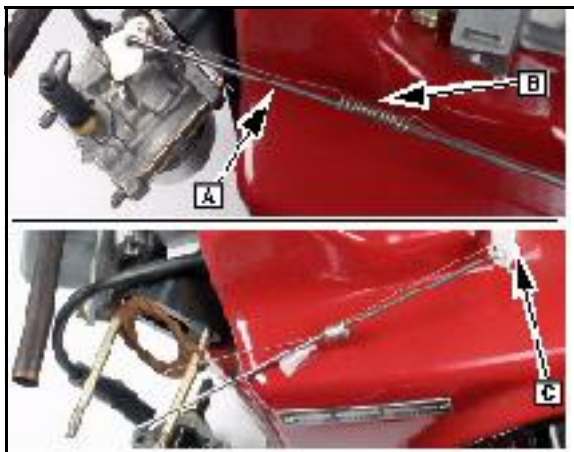

Fig. 7
3. Slide carburetor from its mounting studs and disconnect governor link ([A] Fig. 7) and anti-backlash spring ([B] Fig. 7) when carburetor is free.
4. Remove governor link and anti-backlash spring from governor lever ([C] Fig. 7) and set aside.